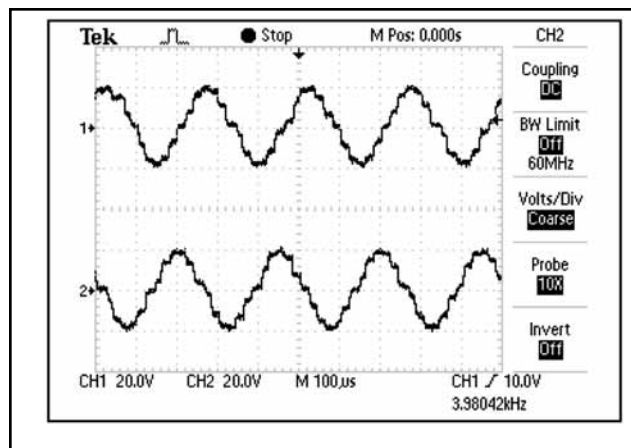

FIGURE 5.6
6. Compare waveform form on scope to Figure 5.6.
8. Verify that the amplitude displayed below timer and beside Channel 1 and 2 icons drops to zero (0). Verify that "Paused" is displayed beside the "Channel 1" and "Channel 2" icons.
1. Waveform is the same between scope and Figure 5.6, amplitude dropped to zero when paused and "Paused" displayed beside channel icons.